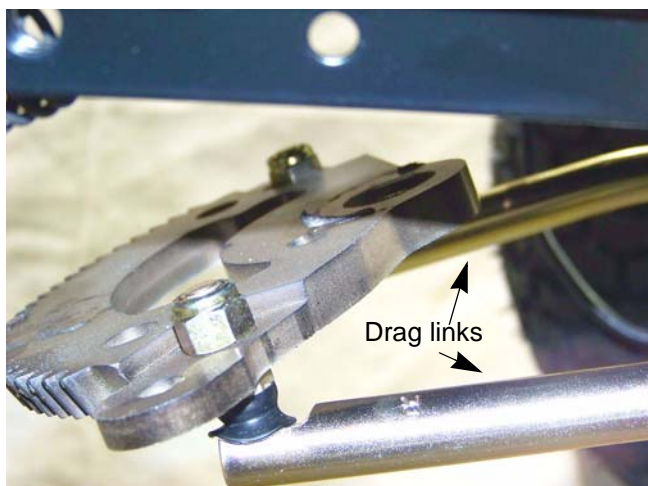

Figure 6A.12
8. Disconnect the drag links from the forward most holes in the sector gear using a 1/2" wrench and a 9/16" wrench. See Figure 6A.12.